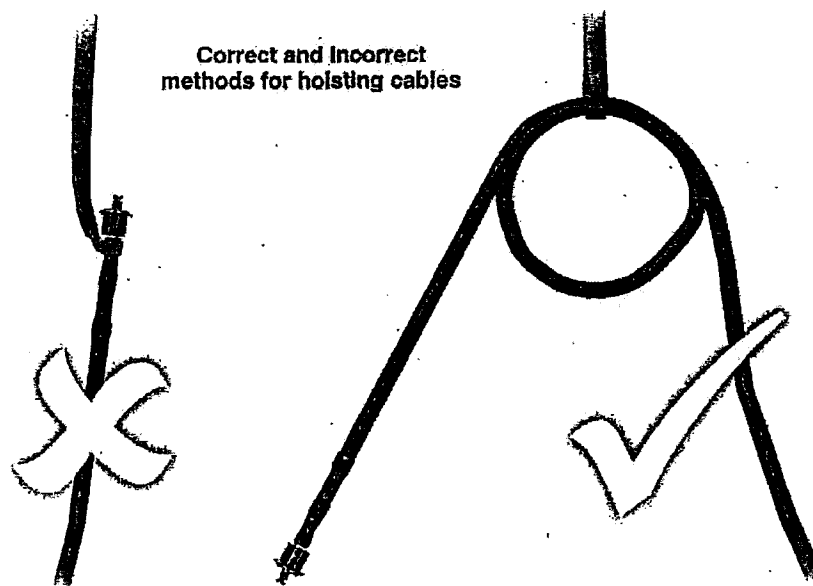

Figure 11.
- DO NOT haul the HVSC downconductor from the termination, see Figure 11.